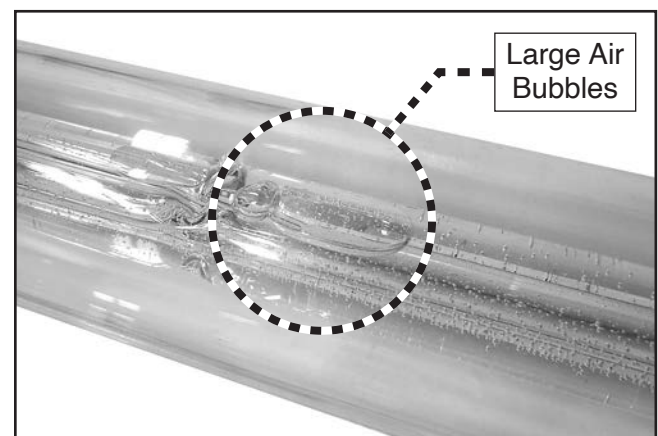

Figure 19. Air bubbles present in laser tube.
9. Open laser tube access door and verify large air bubbles have released from laser tube (see **Figure 19**).